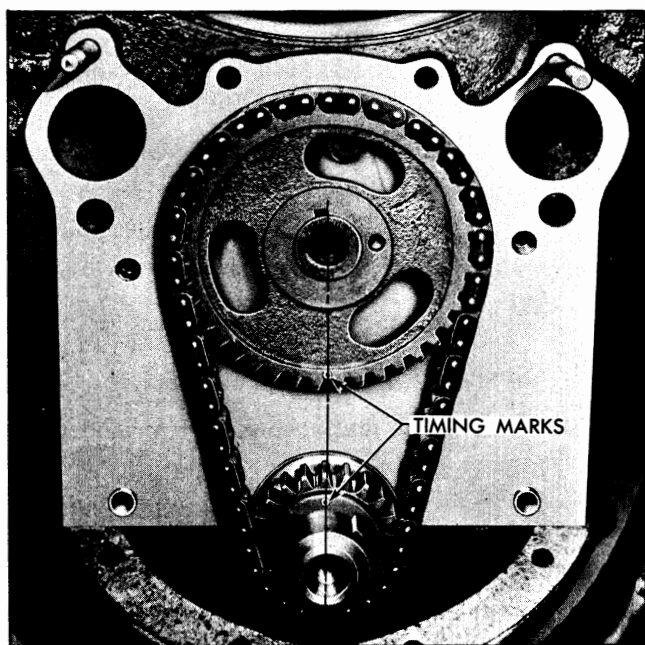

Fig. 6-73 Aligning Timing Marks
7. Install sprockets and timing chain, making sure timing marks on sprockets are aligned properly (Fig. 6-73).